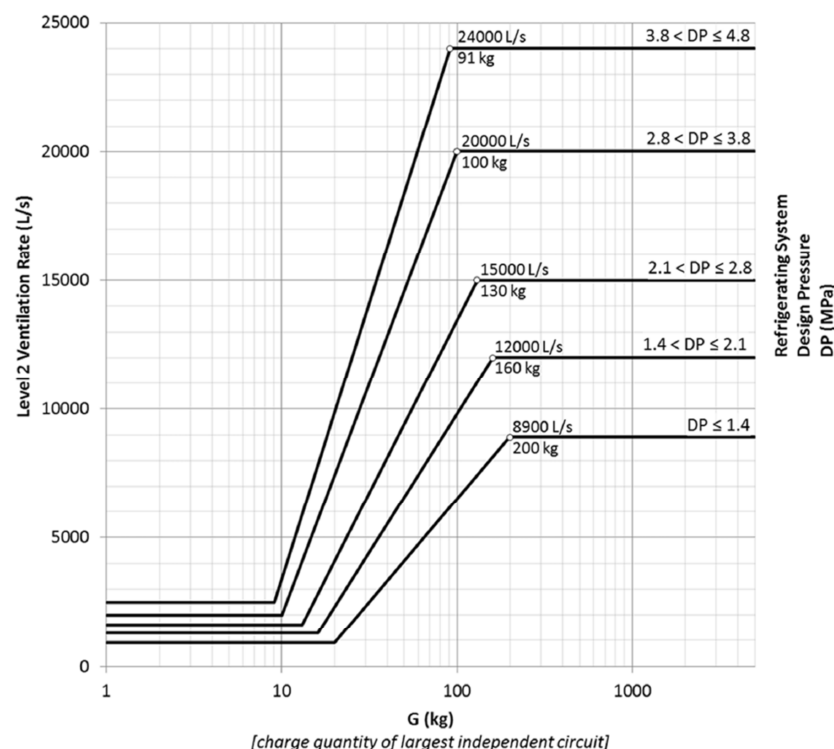

Fig 4-1
- According to the ASHRAE 15-2019, the total airflow for The emergency mechanical ventilation shall be not less than the airflow rate determined by Figure 4-1